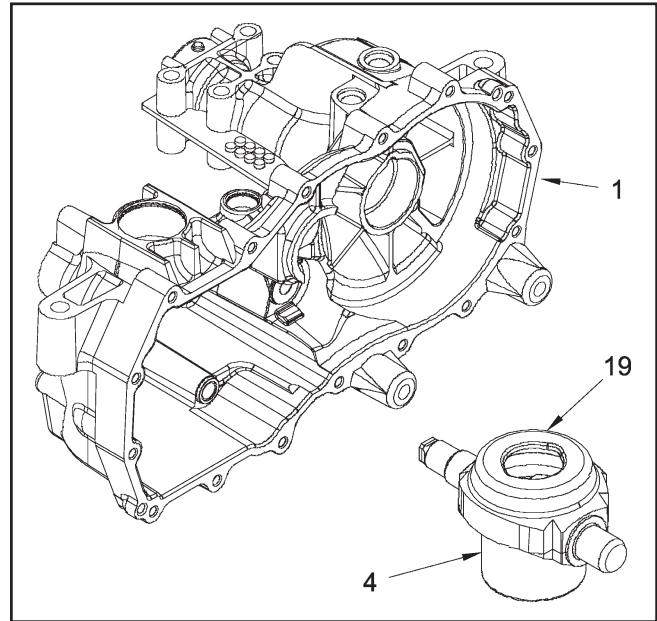

Figure 12.
7. **(See Figure 12)** Remove the swashplate (19) and pump cylinder block (4) as one assembly. NOTE: Removal will be aided by applying a small amount of pressure on the trunnion mounted swashplate towards the center section. Also note that the control arm (23, page 28) may be loosely assembled at this point to assist in swashplate removal. While gently removing the swashplate and block assembly, keep the block face flush with the center section to minimize damage to the running surface.